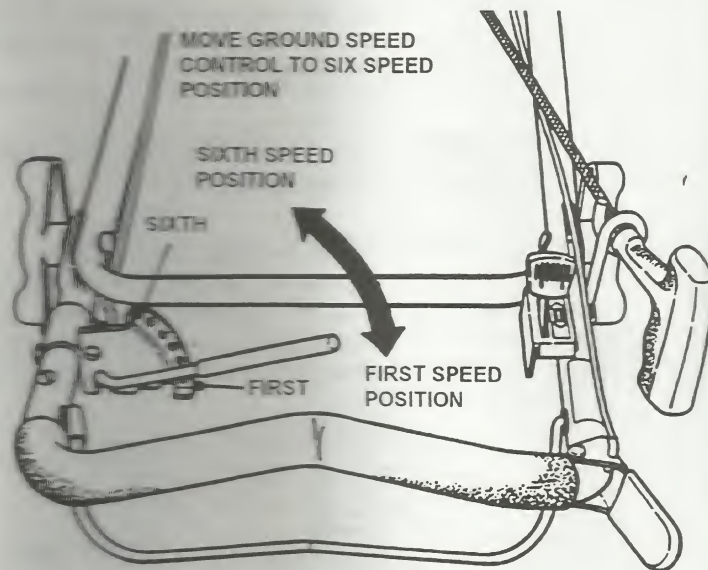

FIGURE 4.8
1. Place shift rod in the sixth speed position. See Figure 4.8.